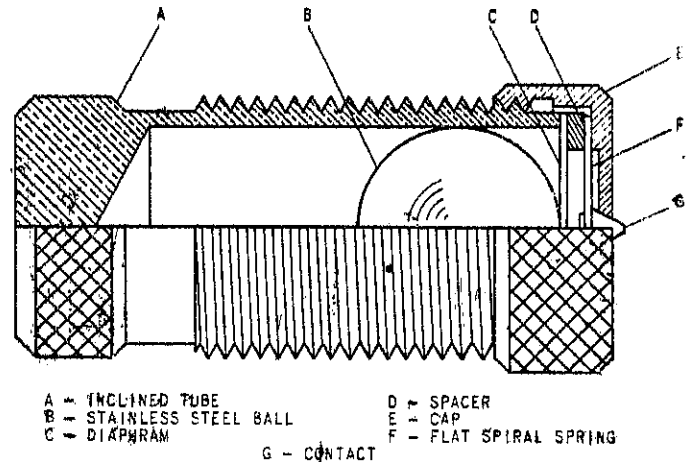

Fig. 5 (K-6077069-3) Stationary Contact Assembly
The contacts are silver-to-silver elements and are constructed with a non-bounce feature to insure a positive circuit closure. Fig. 5 shows the arrangement of the contact mechanism. The stationary contact (G) is mounted on a flat spiral spring (F) which is spaced from a thin diaphragm (C) by a washer (D). The cap (E) holds these in place on a
Should it be necessary to change the stationary contact mounting spring (F) (Fig. 5), remove the contact barrel and sleeve as a complete unit after loosening the screw at the front of the contact block. Unscrew the cap (E). The contact and spring may then be removed.